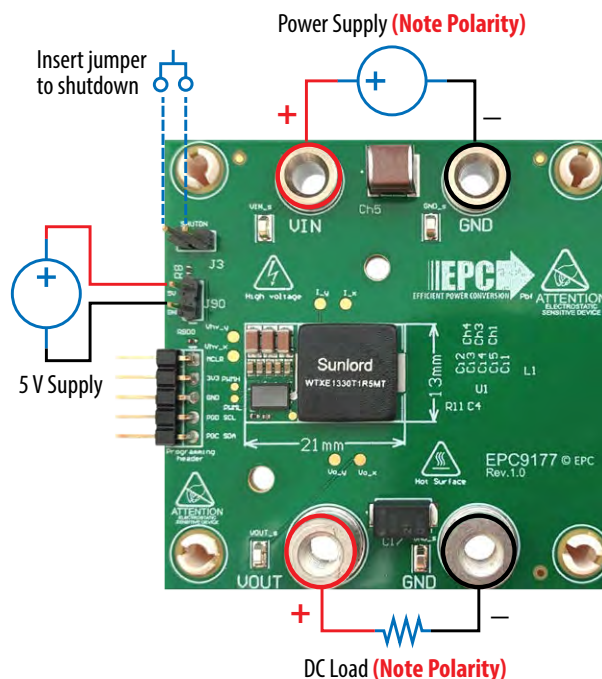

Figure 5: Power and jumper connections to the EPC9177 demonstration board for **buck mode** operation (default)
To operate the EPC9177 in buck mode, connect the input supply to the load as shown in figure 5.
On the EPC9177 demonstration board, there is an option to **Disable** operation by insertion of a 100 mil jumper into J3 as shown in figure 5.
The EPC9177 demonstration board is easy to set up to evaluate the performance of the EPC23102 eGaN IC. Refer to figures 5, 6 & 7 for proper connection and measurement setup and follow the procedure below to operate the board:
2. With power off, connect the input power supply between VIN (**J6**) and GND (**J4**) paying careful attention to the polarity as shown in figure 5. A shunt can be inserted in series with the positive supply to measure the input current. **Note that shunt measurement must be floating with respect to GND.**
3. With power off, connect a suitable load between VOUT (**J7**) and GND (**J5**) paying careful attention to the polarity as shown in figure 5.
4. With power off, connect a gate and controller power supply set to 5 V to (**J90**) paying careful attention to the polarity as shown in figure 5. This power supply needs to be capable of supplying at least 200 mA of current.